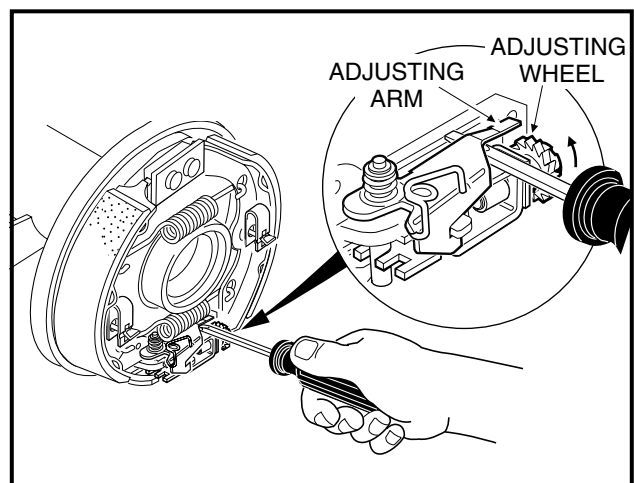

Figure 6-17 Turn Adjusting Wheel
6. Place a flat blade screwdriver under the adjusting arm and raise arm off of the adjusting wheel. While holding the arm up, turn the wheel upward until it stops (**Figure 6-17, Page 6-7**). Remove the screwdriver.
2. Make the brake shoe and drum adjustment by depressing and releasing the brake pedal repeatedly until an audible clicking can no longer be heard (**Figure 6-17, Page 6-7**).